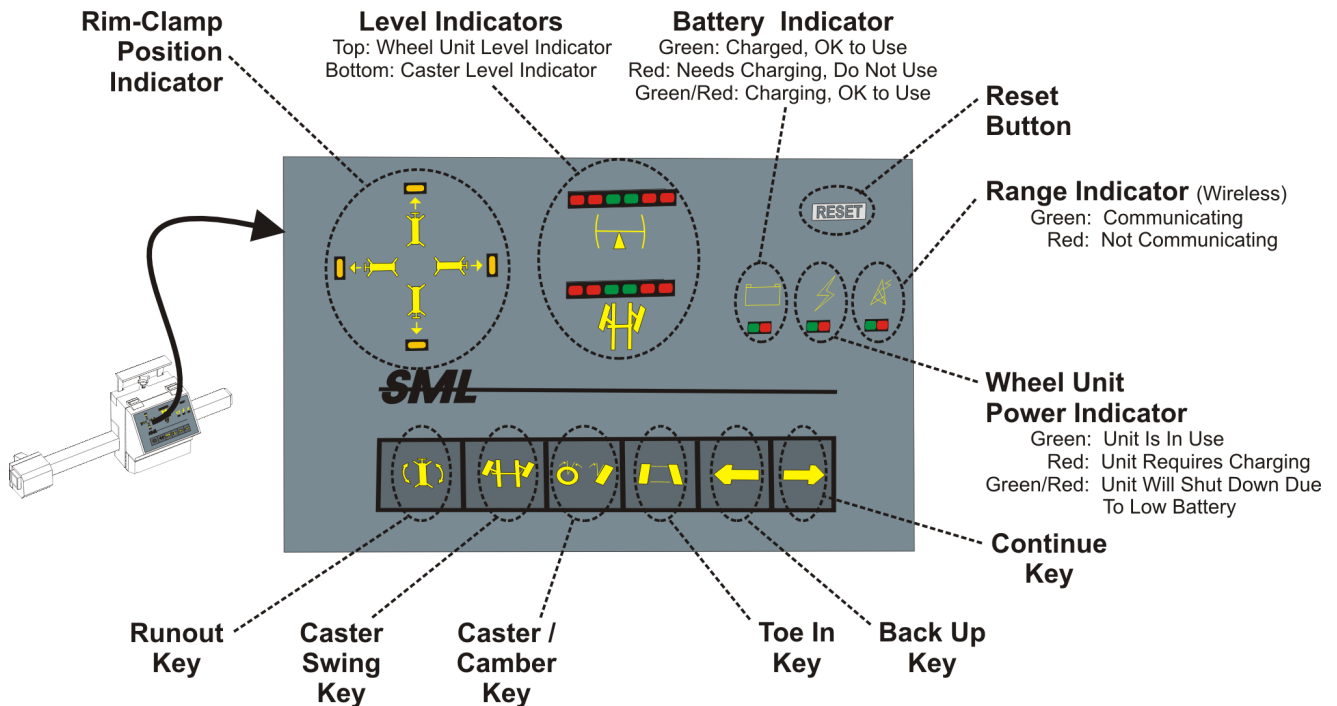

Figure 2-6. Wheel Unit – Operator Panel.
- 2.3.2 Wheel Unit Operator Panel. A flat panel, with built in touch pads and LED's, is illustrated and defined in Figure 2-6.
- 2.3.5.1 On the wheel unit's operator panel, there is a RED/GREEN LED display for the battery. These indicators are used to display the battery's status/health (Refer to Figure 2-6).
- 2.3.5.2 In wireless mode use the operator panel (Fig. 2-6) on the wheel unit and check for the following: